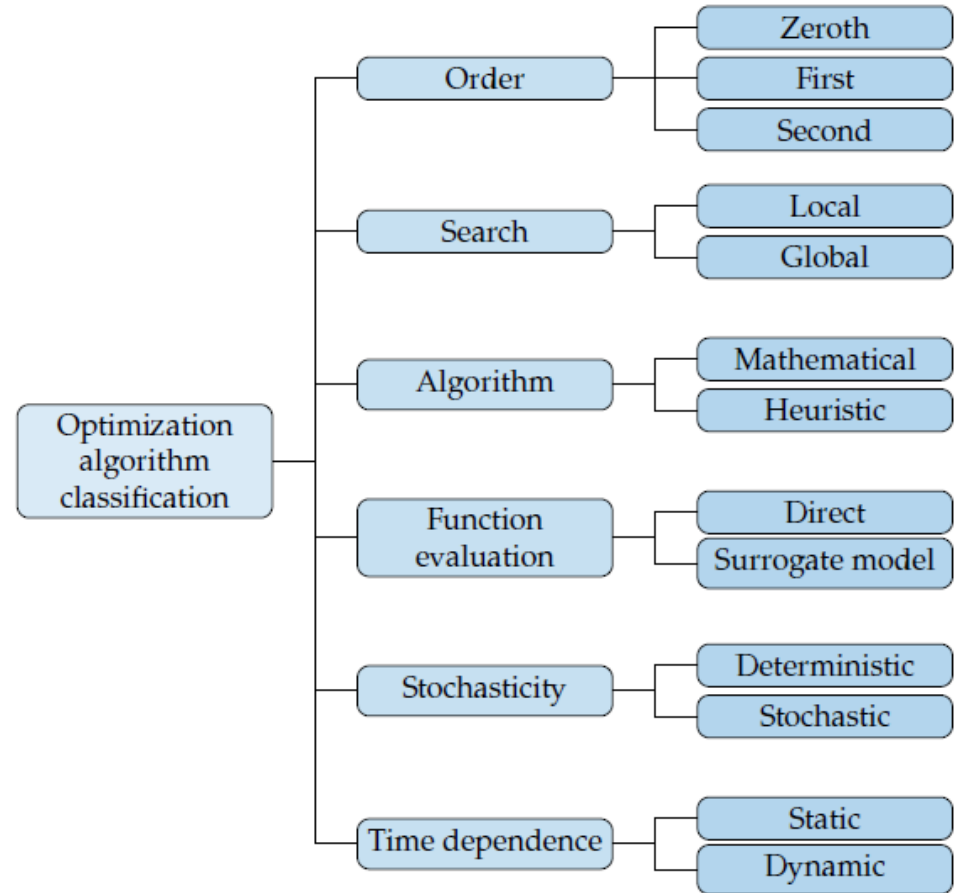

Figure 1.20 Classification of optimization algorithms based on attributes. These attributes are independent, and any combination is possible
- Fig. 1.20 lists the attributes for the classification of optimization algorithms, which we cover in more detail in the following discussion.